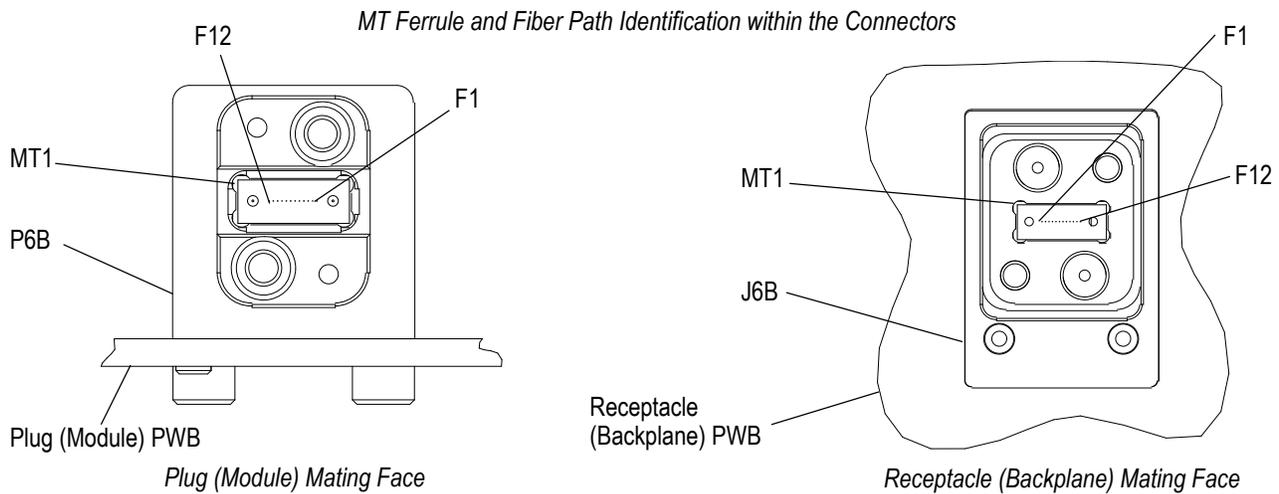

Figure 16
**D. Ferrule and Circuit Identification** (Figures 16 and 17)
The connector locations “P6B” and “J6B” identified in Figure 16 are shown as examples and are variable for the module and backplane position within the card slot in accordance with VITA 66.0.